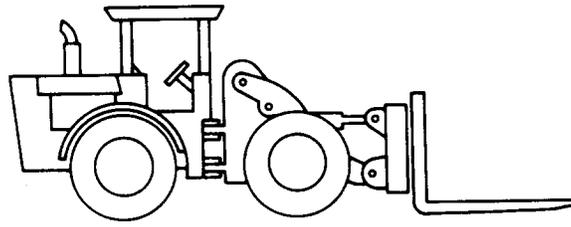

FIGURE 2—
- 4.1.2 Articulated Loader with Fork Attachment (see Figure 2)